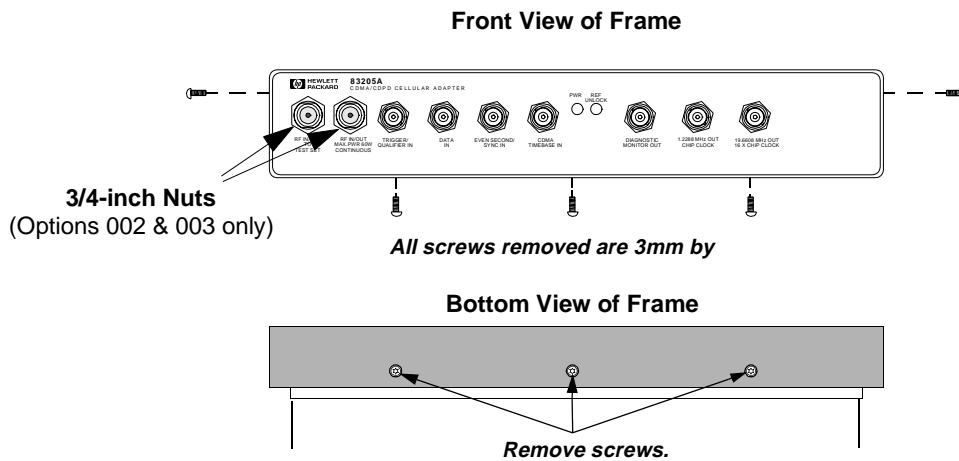

Figure 20 Removing the Frame Screws
3. Remove the 5 frame screws and the two 3/4-inch nuts shown in figure 20.